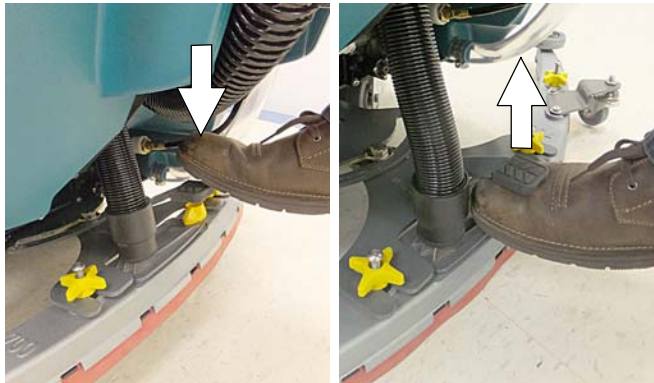

FIG. 75
4. Lower the squeegee assembly to floor by stepping on foot pedal (Figure 75). To raise squeegee assembly, place foot under foot pedal and lift. The vacuum motor will automatically start when squeegee is lowered to floor.